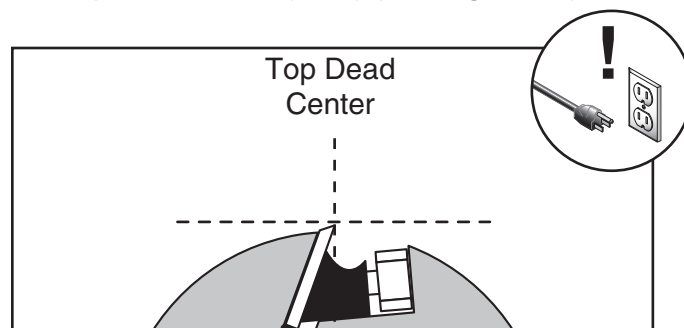

Figure 33. Cutterhead knife at top-dead-center.
3. Place a straightedge on the outfeed table so it extends over the cutterhead and rotate the cutterhead pulley until one of the knives is at top-dead-center (TDC) (see **Figure 33**).